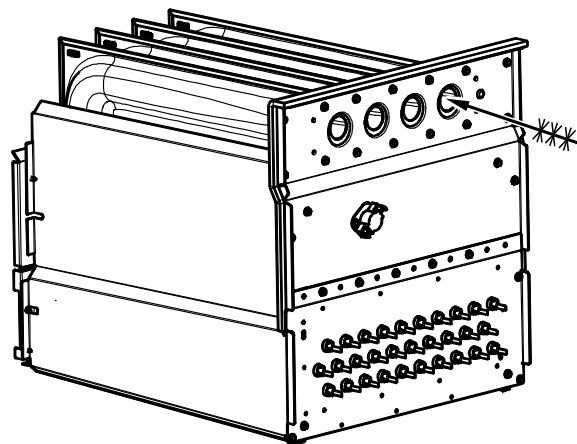

Fig. 60 - Cleaning Heat Exchanger Cell
7. Clean heat exchanger openings with a vacuum and a soft brush. See Fig. 60.